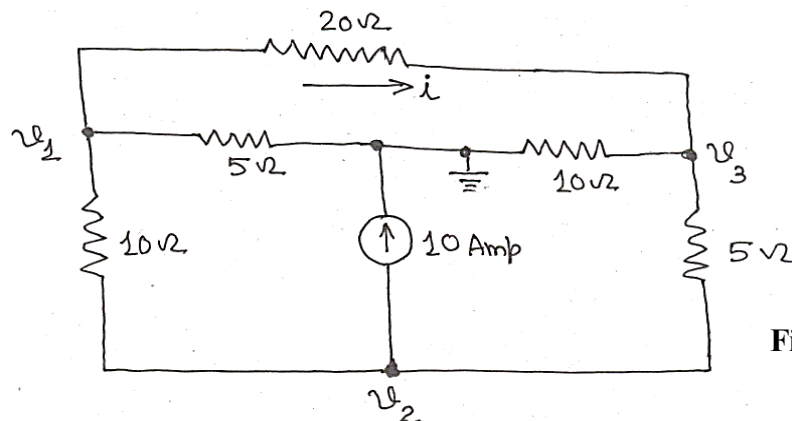

Fig. 3.6
6. Using Nodal Analysis method, find  $v_1, v_2, v_3$  and  $i$  of the circuit shown in figure 3.6. [Ans:  $-27.27V, -72.73V, -45.45V$  and  $0.909 A$ ]